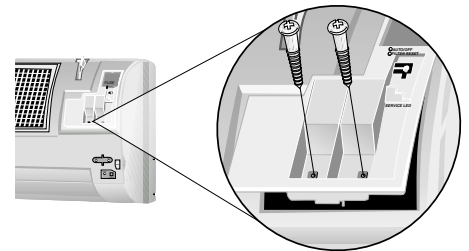

Fig. 7 — Remove Control Cover
3. Remove the two screws from the control box cover and take off the cover. See Fig. 7. Save the screws to reassemble.